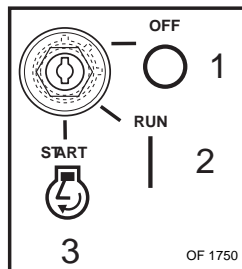

Figure 6
- Insert ignition key (Figure 6).
- Turn ignition key to Start (3) position. If engine does not start in five seconds, release ignition key, wait, and then repeat. Once engine has started, ignition key will return to the Run (2) position.